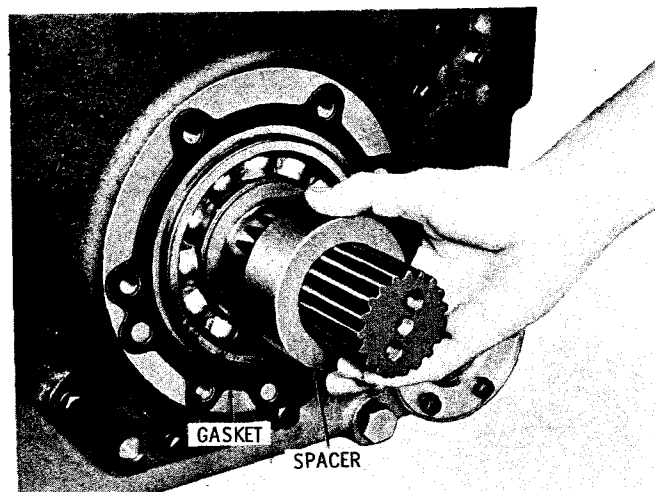

Fig. 5-87. Removing spacer from output shaft (models with rear output)
(9) Remove gasket and spacer (fig. 5-87).